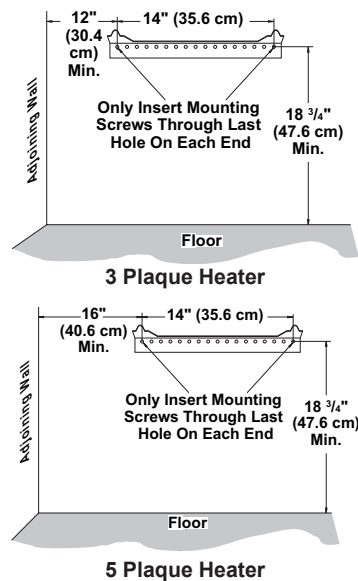

Figure 8 - Mounting Bracket Clearances
WARNING: Maintain minimum clearances shown in Figure 8. If you can, provide greater clearances from floor and joining wall.
2. Mark screw locations on wall (see Figure 8). *Note: Only mark last hole on each end of mounting bracket. Insert mounting screws through these holes only.*